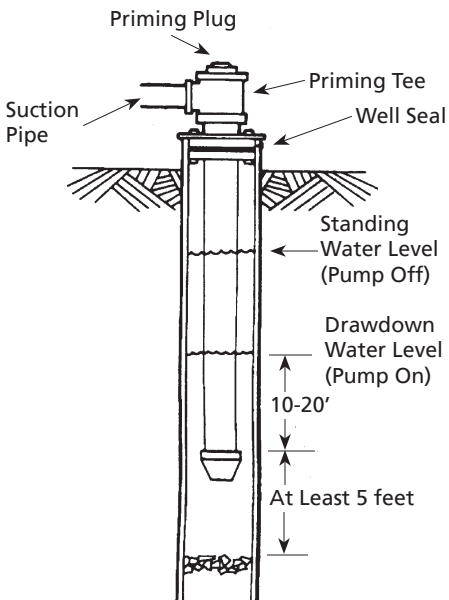

Figure 14 - Cased/Dug Well Installation
5. When using a foot valve, a priming tee and plug as shown in Figure 14 are recommended.